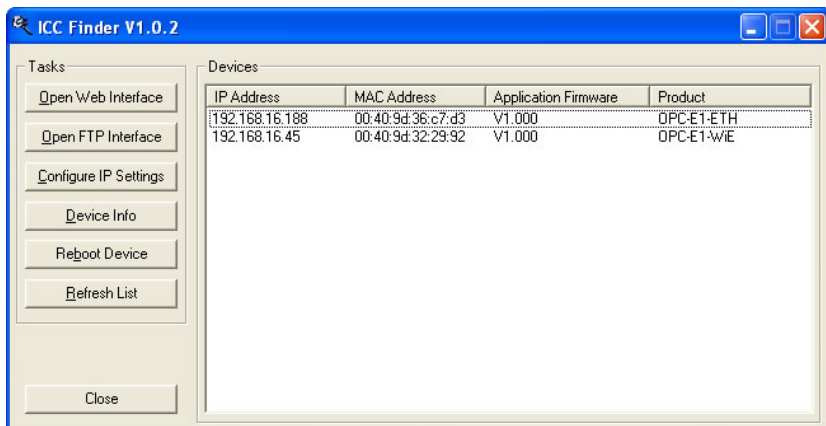

Figure 17: ICC Finder Discovery Utility
The “ICC Finder” application is a simple Windows PC program (just a single .exe file, no installations, DLL’s etc.), which when executed discovers all ICC communication interfaces on the current Ethernet subnet, regardless of whether or not their network parameters are currently compatible with the subnet upon which they reside. Refer to Figure 17.
3. The discovery utility scans the network for ICC devices and then lists each device's **IP Address**, **MAC Address**, **Firmware Version** and **Product Name**. Refer to Figure 17 on page 25. Identify your device by its unique MAC address (printed on a label on the top of the antenna module housing).